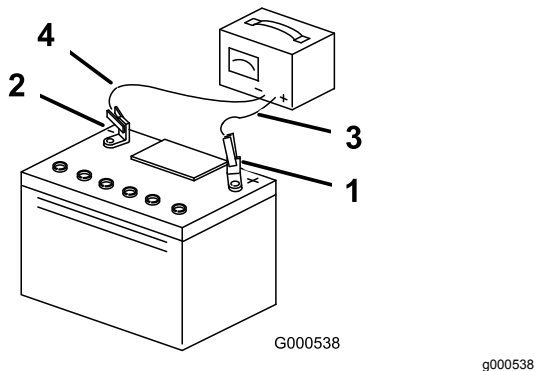

Figure 82
5. When the battery is fully charged, unplug the charger from the electrical outlet, and disconnect the charger leads from the battery posts (Figure 82).